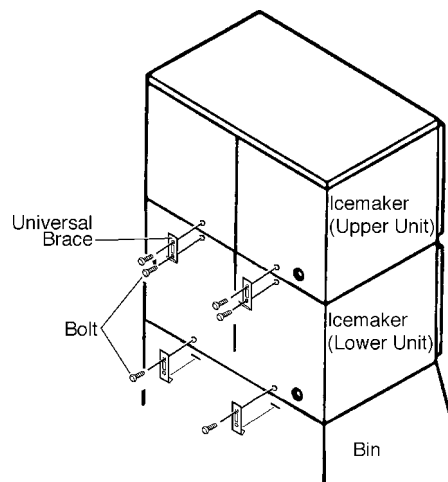

Fig. 4
5. INSTALLATION OF THE SECOND UNIT - See Figures 4 and 5